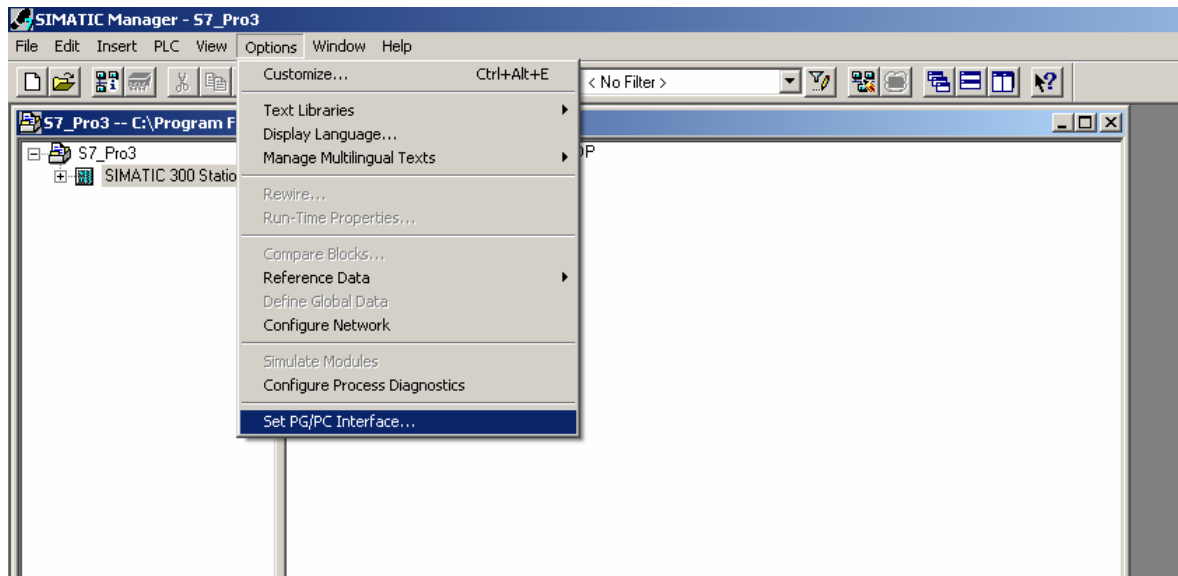

Figure 5
2. Choose PG/PC interface from the menu as shown in figure 5.